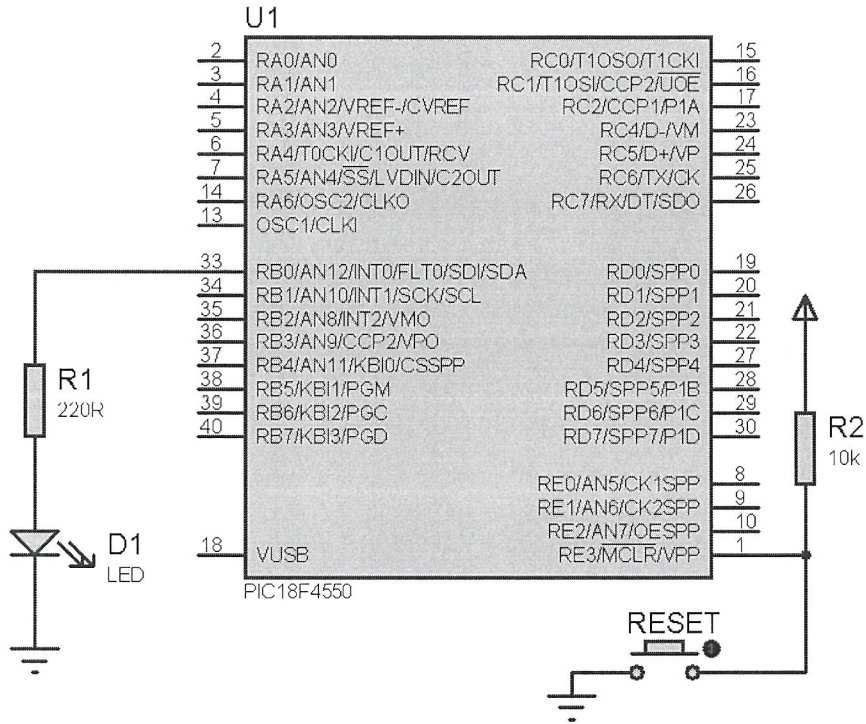

Figure Q1(d)
- (d) If the PIC 18F4550 is connected to a LED as shown in **Figure Q1(d)**. Write a simple program to blink the LED every 1024 μ s using specifications as in **Question 1(b)**. (7 marks)